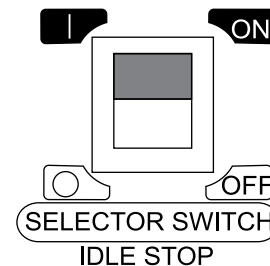

Figure 43. Idle Stop Selector Switch (ON)
- Place the idle stop selector switch (Figure 43) in the **ON** position.